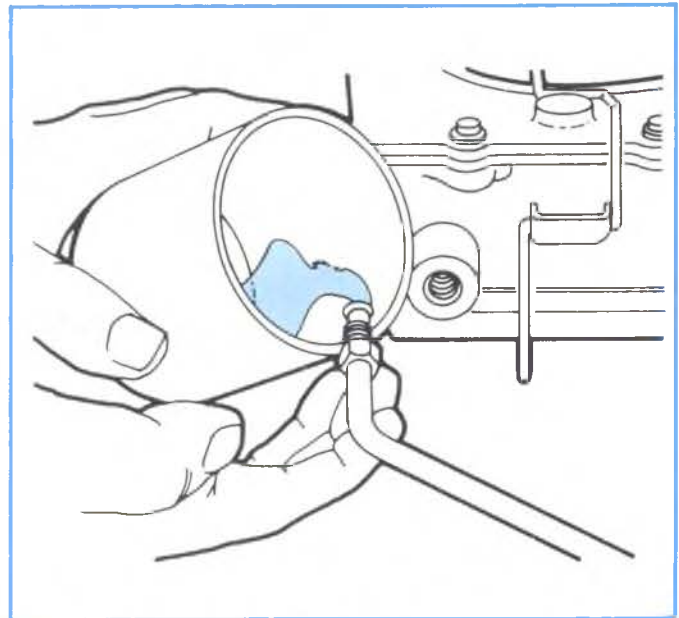

Figure 4-10, Fuel Flow Test.
- Place a suitable container at end of pipe and crank engine a few revolutions (Figure 4-10). If little or no fuel flows from open end of pipe, then fuel pipe is clogged or pump is inoperative.